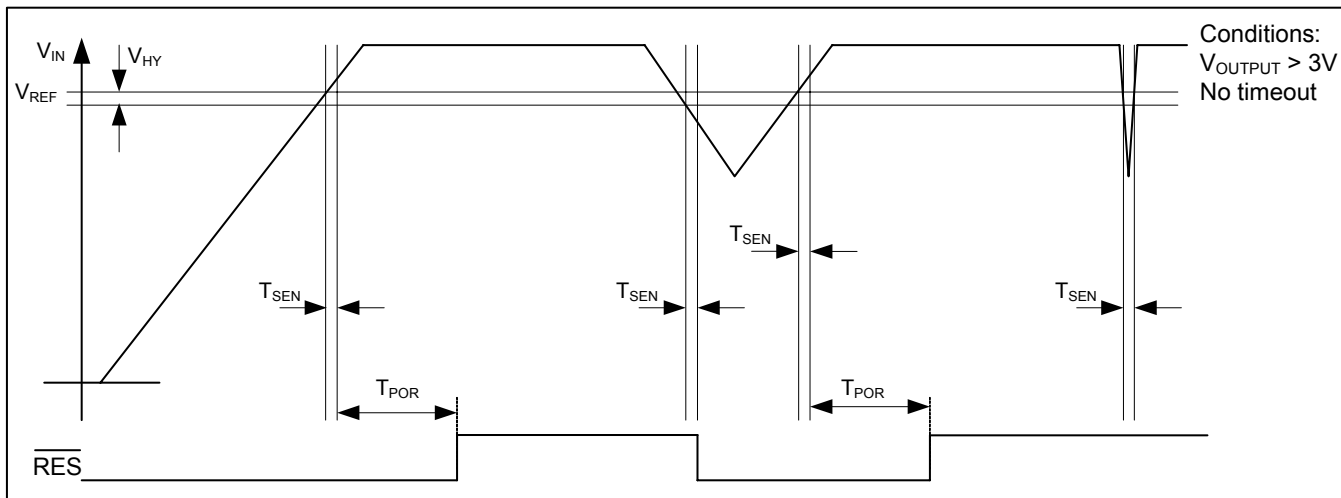

Fig. 5
- Note 6:** the comparator reference is the power-down reset threshold. The power-on reset threshold equals the comparator reference voltage plus the comparator hysteresis (see Fig. 5).
At power-up the reset output (\overline{RES}) is held low (see Fig. 5). When V_{IN} becomes greater than V_{REF}, the \overline{RES} output is held low for an additional power-on-reset (POR) delay T_{POR} (defined with the external resistor connected at R_{OSC} pin). The T_{POR} delay prevents repeated toggling of \overline{RES} even if V_{DD} voltage drops out and recovers. The T_{POR} delay allows the microprocessor's crystal oscillator time to start and stabilize and ensures correct recognition of the reset signal to the microprocessor.